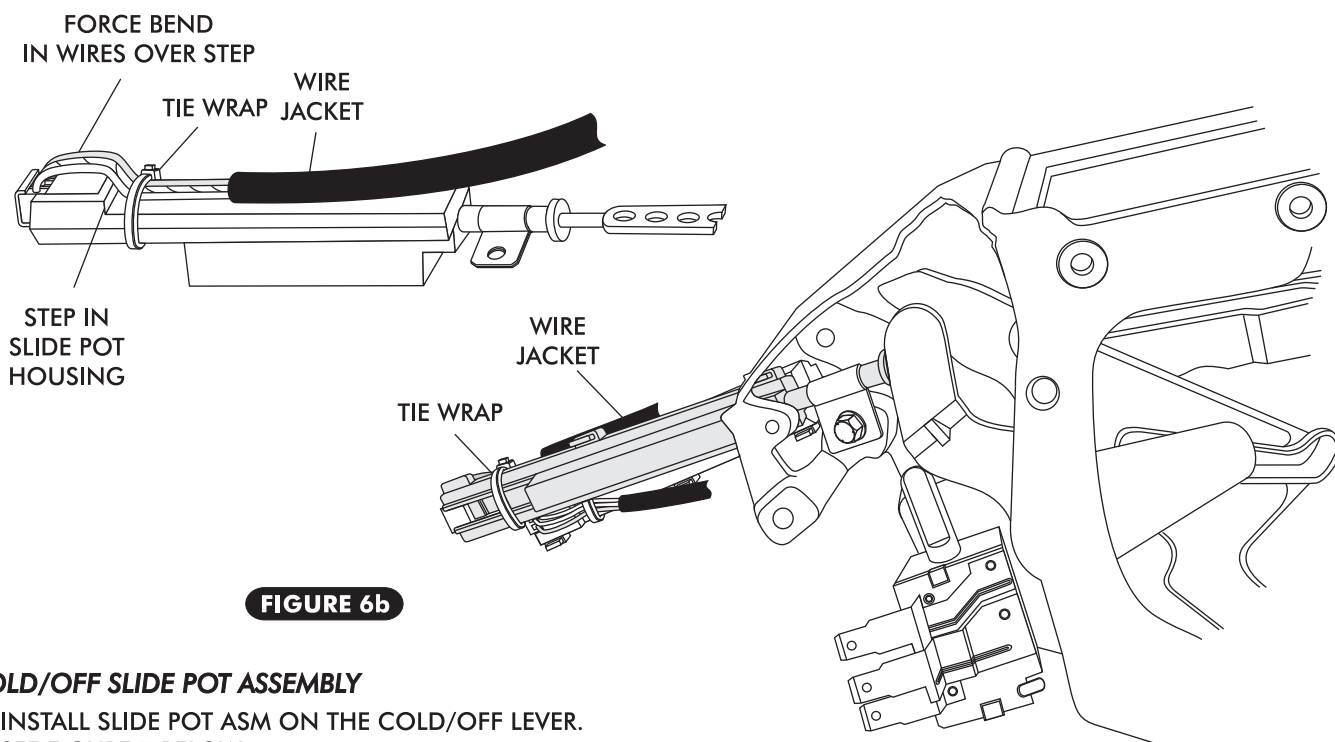

FIGURE 6b
- ONCE WIRES ARE CORRECTLY PLUGGED INTO SLIDE POT ASSEMBLY, SECURE WIRES TO THE SLIDE POT ASSEMBLY USING TIE WRAPS (SUPPLIED). SEE FIGURE 6b BELOW. THE TIE WRAP MUST BE LOCATED BETWEEN THE END OF THE WIRE JACKET AND THE STEP IN THE SLIDE POT HOUSING FORCING A BEND IN EACH WIRE AS THEY PASS OVER THE STEP IN SLIDE POT HOUSING. HEAD OF TIE WRAP MUST FALL ON EDGE OF HOUSING AS SHOWN TO REMAIN TIGHT. ENSURE THAT THE TIE WRAPS ARE SNUG ENOUGH THAT THE WIRES CANNOT MOVE. SEE FIGURE 6b.